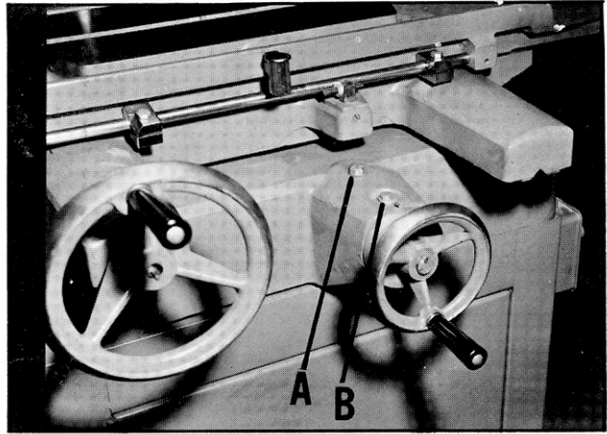

Fig. 14.
1. Remove special screw (A) Fig. 14 and screw (B) .